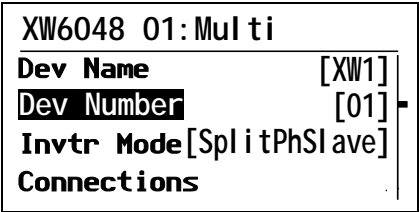

Figure 3-6 Setting a Device Number
2. On the Multi-Unit Config menu, select Dev Number. See Figure 3-6.